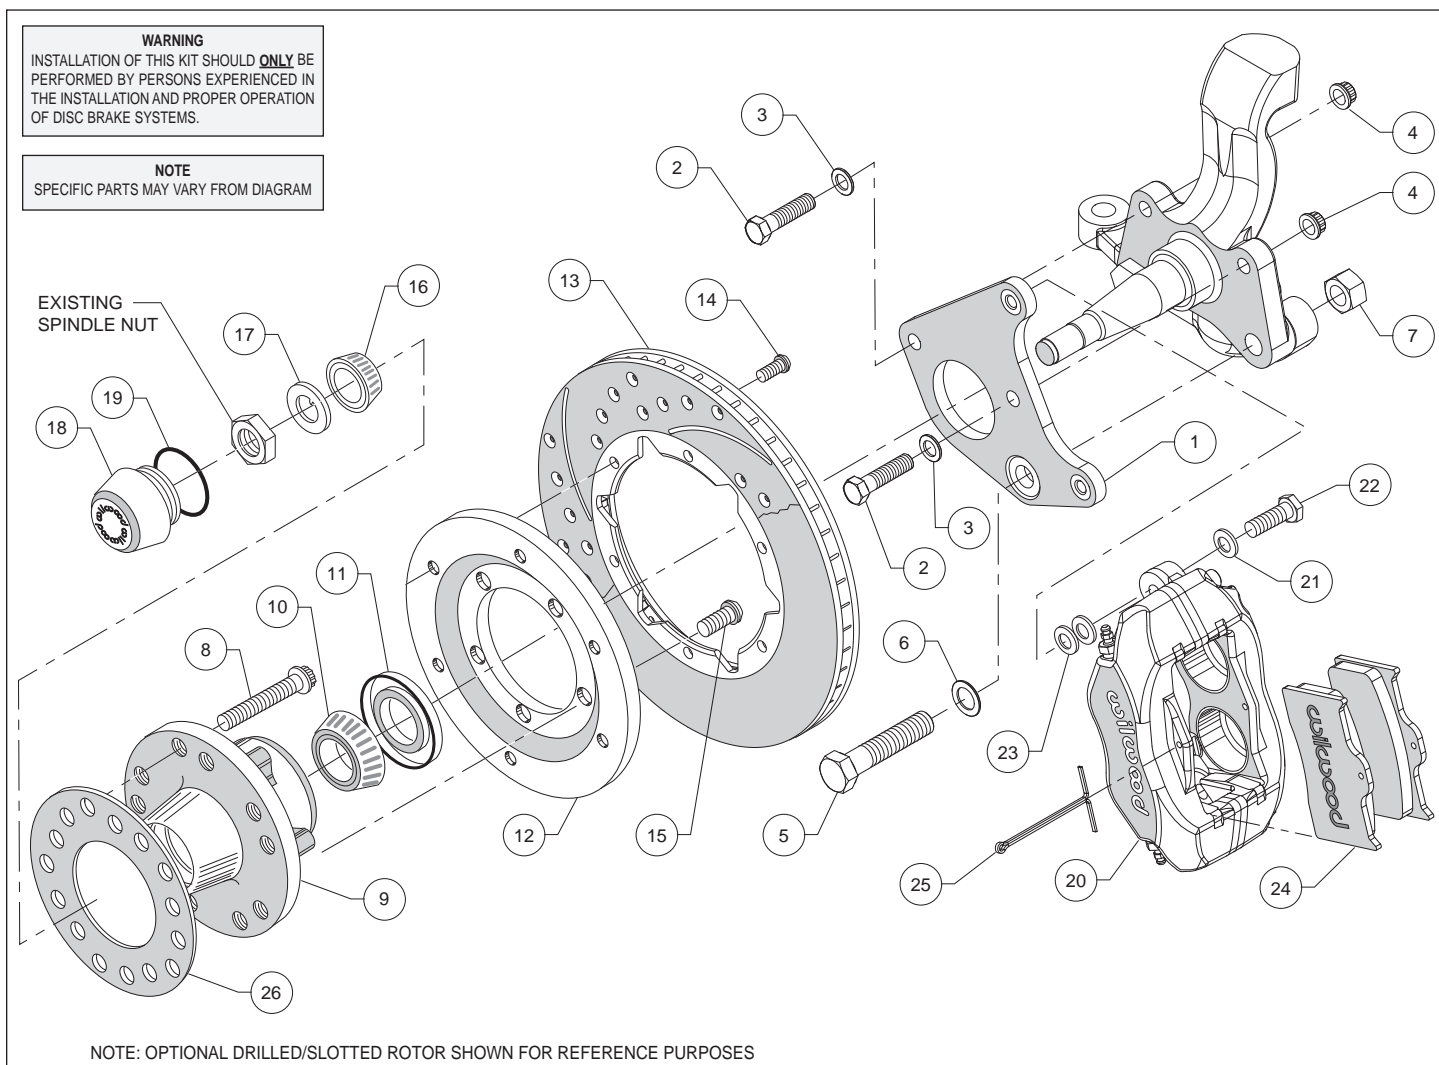
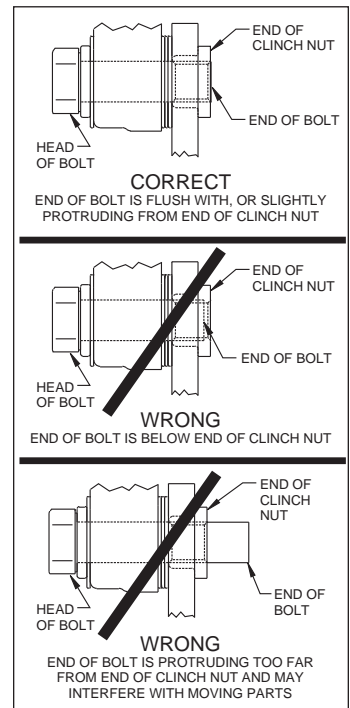

Figure 1. Typical Installation Configuration
Figure 3. Clinch Nut Engagement Diagram
Assembly Instructions (numbers in parenthesis refer to the parts list, on the preceding page and Figure 1): **CAUTION:** *All mounting bolts must fully engage clinch nuts.* Be sure to check that all bolts are either flush or protruding through flanged side of clinch nut after shimming, Figure 3.
- Align caliper mounting bracket (1) with the corresponding holes, to the face of the spindle. Attach using bolts (2/5), washers (3/6), and nuts (4/7), as shown in Figure 1 and Photo 1. Temporarily tighten the mounting bolts. Ensure that the flanged heads of the clinch nuts in the bracket are facing outboard, Photo 1. **NOTE:** *The bracket must fit squarely against the mounting points on the spindle.* Inspect for interference from casting irregularities, machining ridges, burrs, etc. Torque nuts (4) to 47 ft-lbs., and nut (7) to 140 ft-lbs.
- Pack the large inner bearing cone (10) with high temperature disc brake bearing grease (available from your local auto parts store) and install into the backside of the hub (9), Photo 3.
- Install the grease seal (11) by pressing into the backside of the hub (9), flush with the end of the hub, Photo 3.
- Orient the rotor (13) and the rotor adapter (12) as shown in Figure 1 and Photo 4. Attach the rotor to the adapter using bolts (14). Using
- Mount the adapter/rotor assembly (12/13) to the hub (9) using bolts (15), as shown in Figure 1 and Photo 5. Using an alternating sequence, apply red *Loctite*® 271 to the threads, and torque to 55 ft-lb.
- Screw dust cap (18) into hub (9), Photo 7. Friction created by the o-ring (19) on the dust cap keeps it from unscrewing. **NOTE:** The O.D. of the existing OEM spindle washer may be larger than the I.D. of the dust cap not allowing it to seat against the hub face. Therefore, use the spindle washer (17) supplied with the kit instead of the OEM washer.
- NOTE:** Please reference the caution statement at the beginning of the assembly instructions. Mount the caliper (20) onto the caliper mounting bracket (1) using bolts (22) and washers (21), as shown in Figure 1. Initially place two .035" thick shims (23) on each bolt between the caliper and the bracket, Photo 8. Temporarily tighten the mounting bolts and view the rotor (13) through the top opening of the caliper. The rotor should be centered in the caliper, Photo 9. If not, adjust by adding or subtracting shims between the bracket and the caliper. Always use the same amount of shims on each of the two mounting bolts. **NOTE:** The end of each bolt must be flush with or slightly protruding from the head of the clinch nut, as shown in Figure 3. If necessary place spare shims between washer (21) and caliper mounting ear to achieve the proper clinch nut engagement. Once the caliper alignment and clinch nut engagement are correct, remove the bolts one at a time, apply red *Loctite*® 271 to bolt threads, and torque to 40 ft-lb.